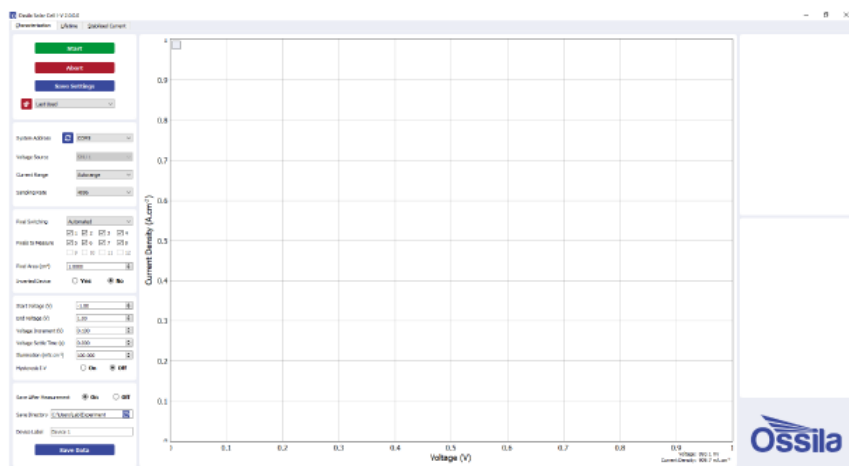

Figure 9.1. Solar Cell I-V software: The Characterisation tab.
1. Start the Ossila Solar Cell I-V software. The window shown in Figure 9.1 will open.